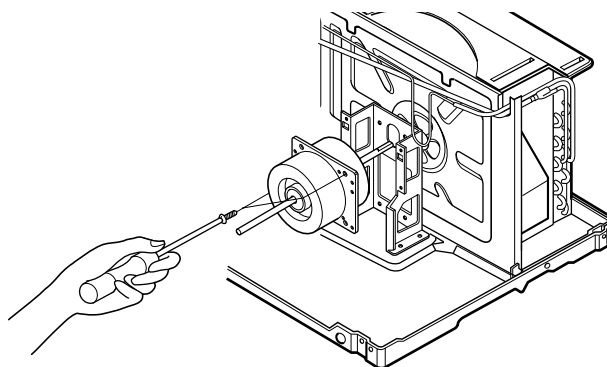

Figure 7
7. Remove the 2 screws which fasten the motor from the mount motor. (See Figure 7)
9. Re-install the components by referring to the removal procedure, above. (See Figure 7)